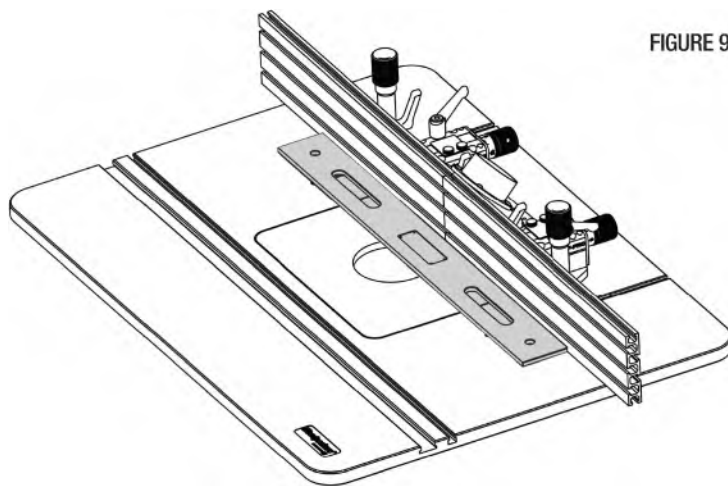

FIGURE 9
1. After completing the initial zeroing of the offset modules, parallel alignment can be checked and adjusted. A reliable straight edge is required for this step. **FIGURE 9**